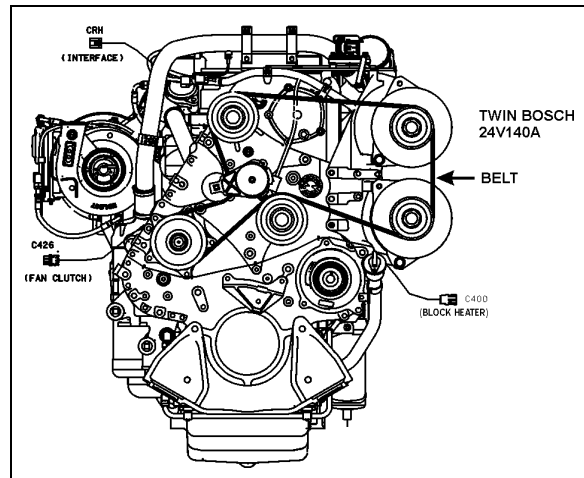

FIGURE 25: ALTERNATOR DRIVE BELT
1. Insert a 3/4" socket drive into the automatic belt tensioner opening (Fig. 25).